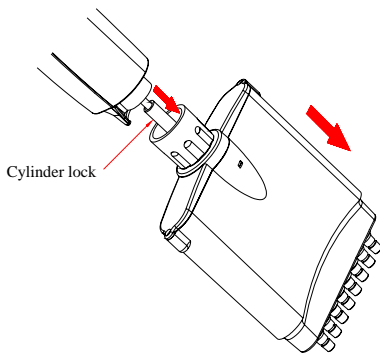

Figure 13: Push the metal cylinder lock downward until you hear a click sound.
4. **Lay the BioPette E down on a flat surface.** Push the metal cylinder lock downward until you hear a click sound as shown in Figure 13.